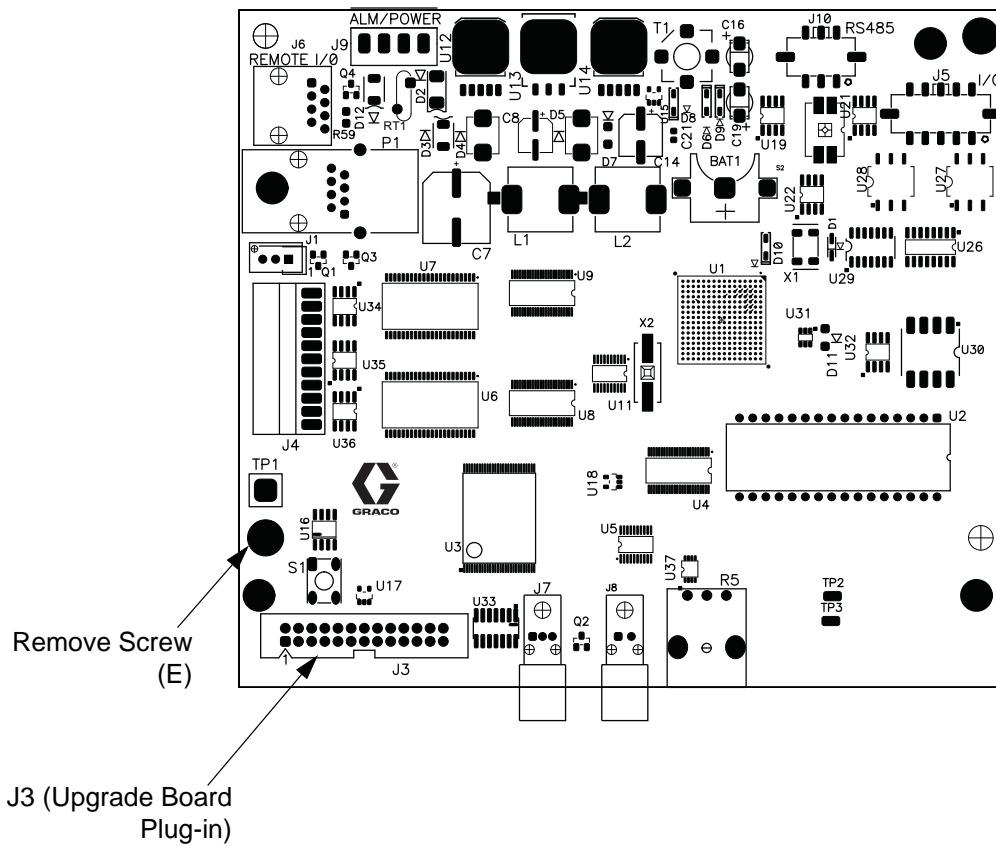

FIG. 5: 255767 Display Board Connectors
3. Locate the display board (C). FIG. 5.
4. Remove one screw (E) and unplug the existing ProMix 2KS auto key board from the display board assembly. FIG. 5.
5. Align connector J4 on the underside of the new ProMix 3KS upgrade board (UB) with J3 on the display board. Press them together. FIG. 5.
6. Secure the ProMix 3KS upgrade board (UB) with the screw (E).